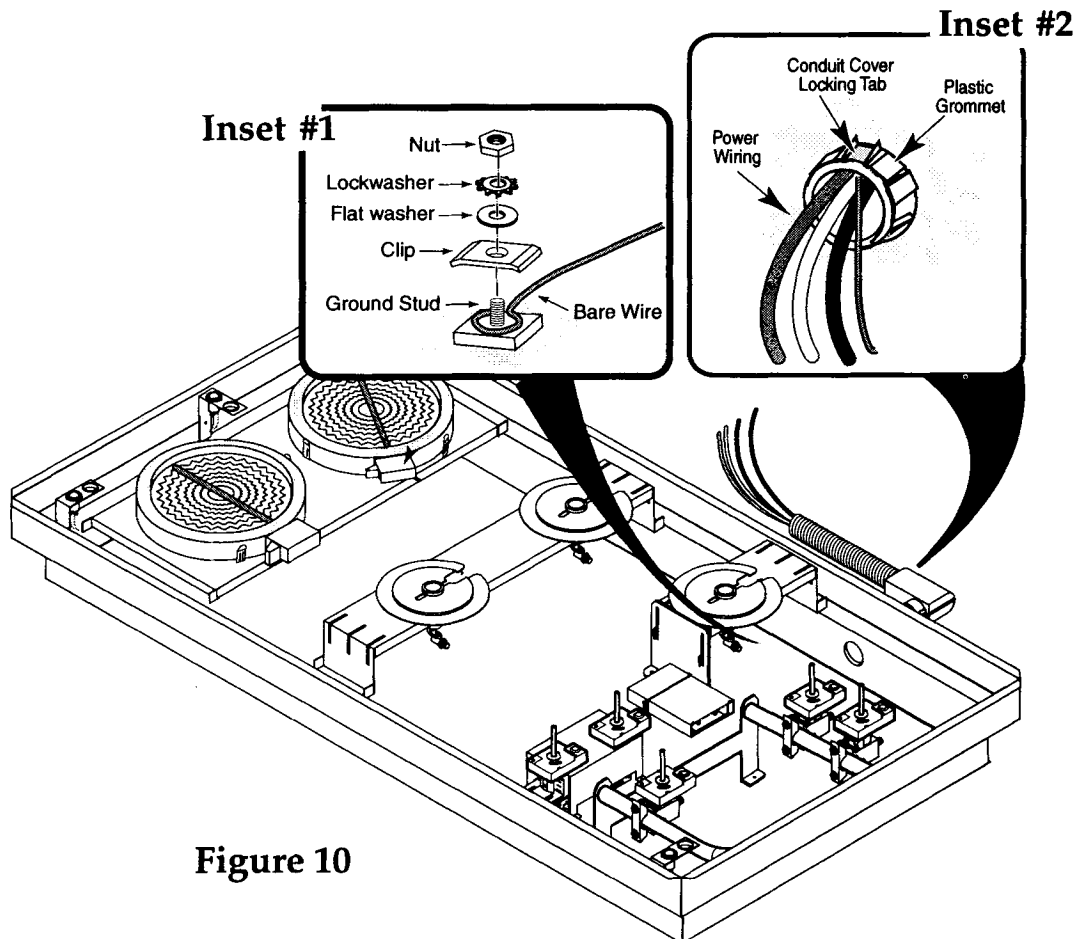

Figure 10
- Refer to Figure 10 for the following steps.